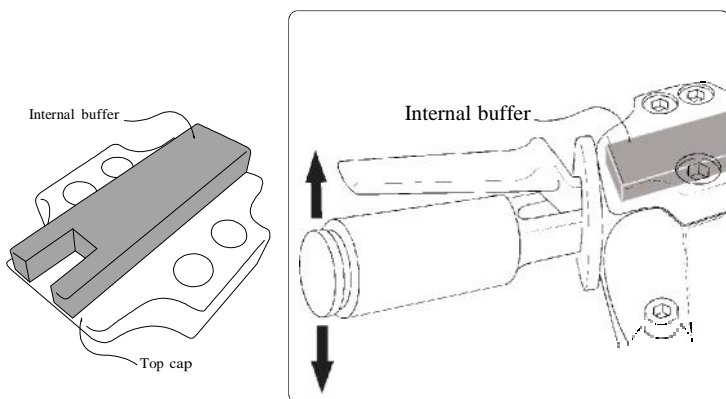

FIG4
2. Push the handles down slightly and pull them back up against the buffer to ensure that the buffer is still effective and that there is no metal-to-metal contact between the handles and the top cap (FIG4)